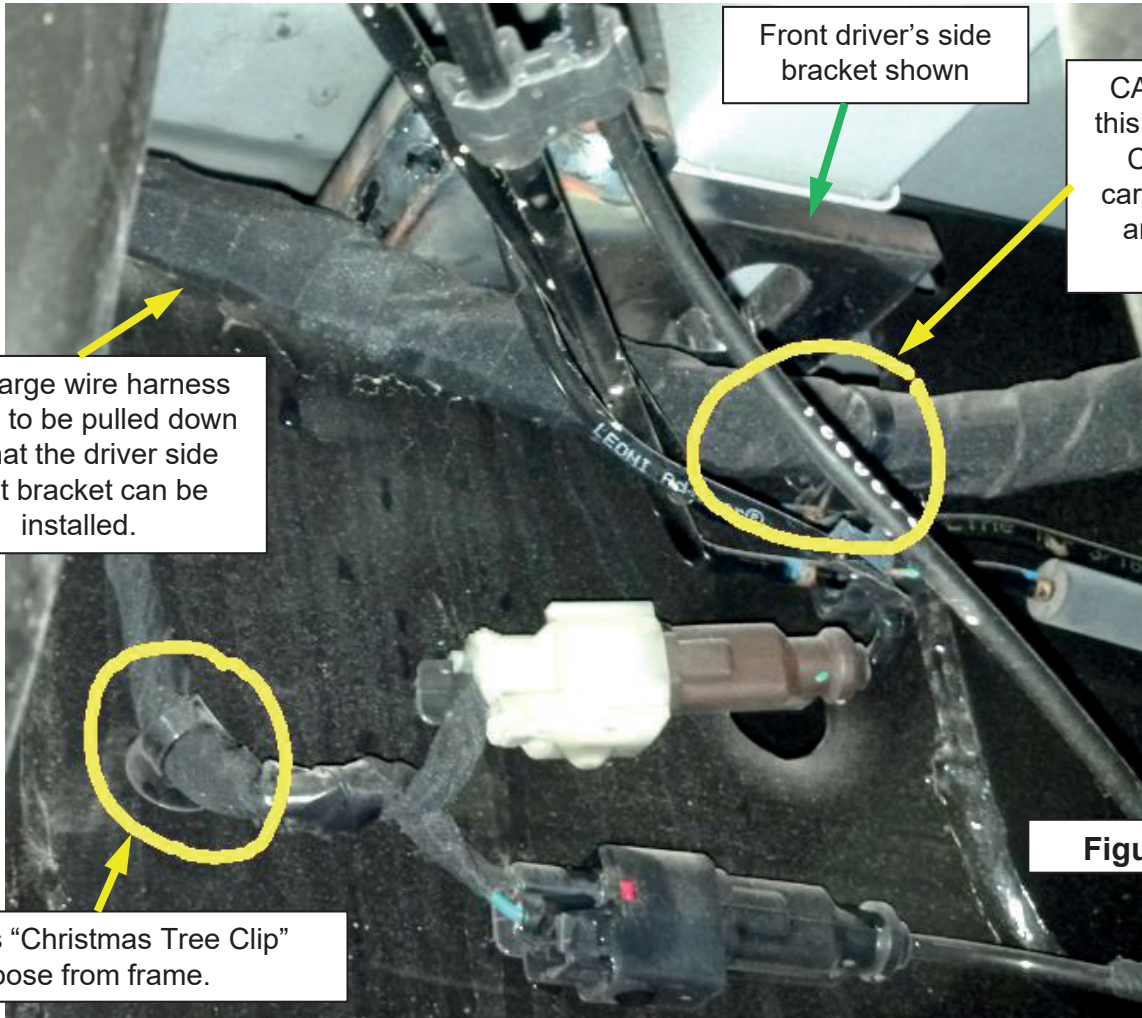

Figure 8
16. Move the hitch assembly out of the way and drill four (4) 3/16" diameter pilot holes down through the bed at the previously marked points. Drill the 2 forward holes and be sure to drill through the bottom of the bed support channel. Check under the bed where the (4) 3/16" pilot holes are and ensure that when the brackets are placed up against the frame and line up with the mounting holes. See Parts Diagram for bracket locations and Figure 8 for detail work for driver's side front bracket
On the driver side front bracket, there are some preparations to be done before installation can proceed. See Figure 8.